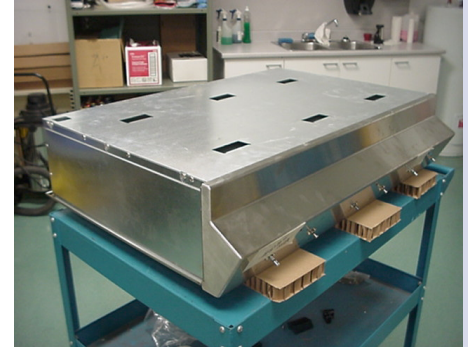

Figure 1
3. Turn the cooktop upside down on the counter or another table. TAKE CARE to put something to protect the counter and the cooktop when turning it upside down. (Figure 1) Placing the electric cooktop in this position will help you work on it.